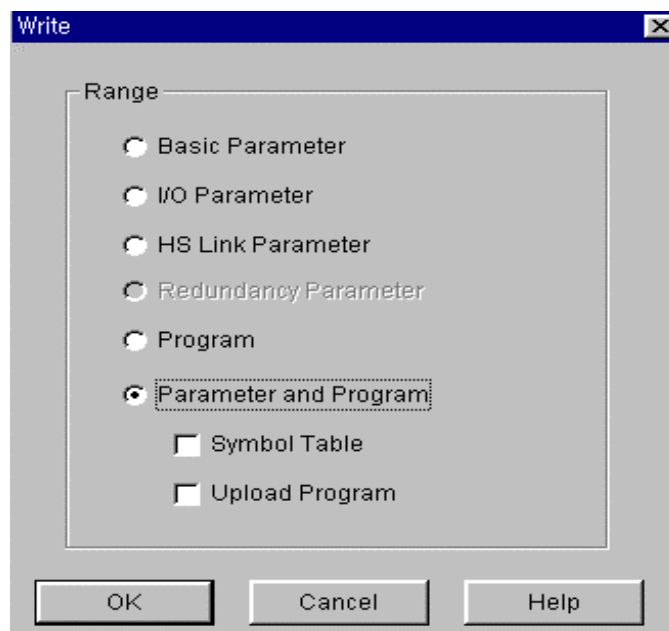

Fig. 6.2.5(A) Screen of parameter download
If *high speed link* parameter prepared by user is stored to project file of GMWIN, and the writing is selected after connection with PLC through the on-line connecting of GMWIN basic menu, the writing window in Fig. 6.2.5(A) is opened. If *high speed link* parameter or parameter and program is selected in figure, and parameter downloading is performed, the appropriate contents is downloaded. At this time, the link enable that is *high speed link* starting information becomes off. Therefore, inevitably click on the appropriate item of *high speed link* 1~4 in link enable setting.